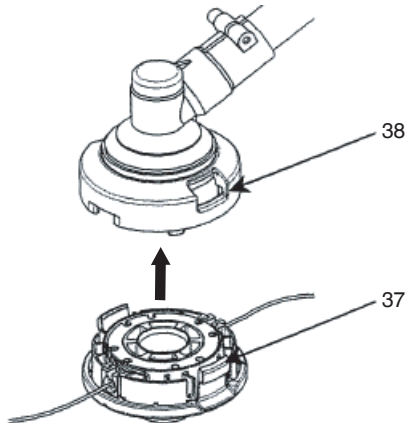

Fig. 33
(6) Place the cover over the case so that the cap locking tabs (37) on the case meet the long holes (38) on the cover. Then push the case securely until it clicks into place. (Fig. 33)